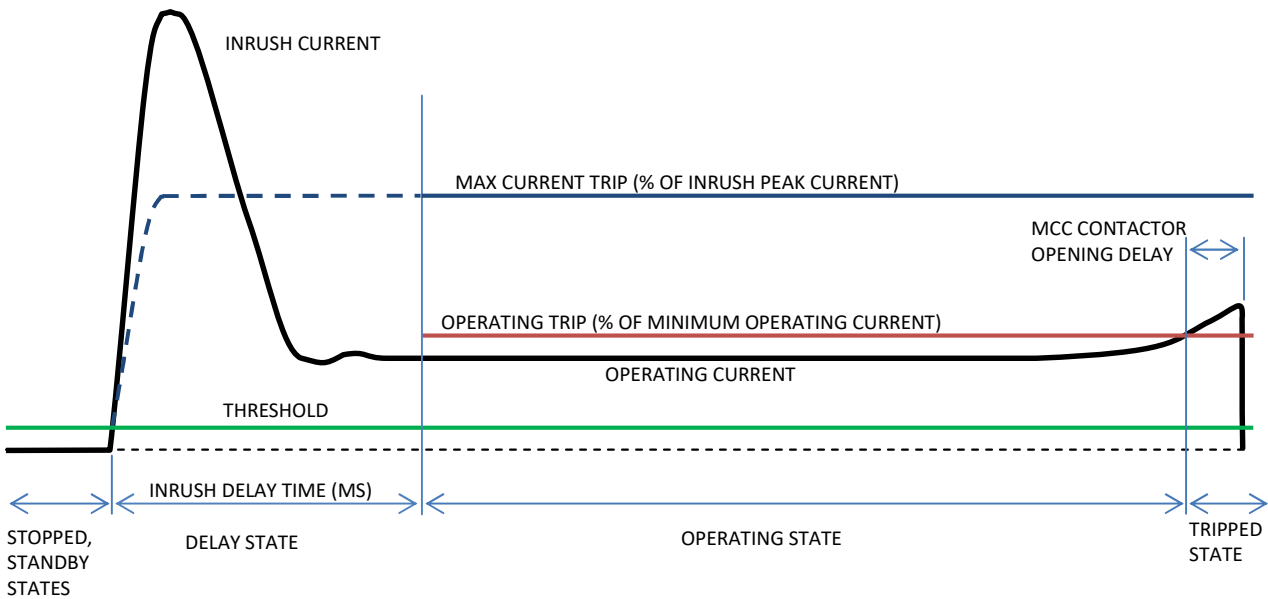

Figure 1: Typical Test Sequence
- 4.11 Figure 1 shows a hypothetical current trace (not to scale) for a run. The relay progresses through various states according to the sensed current.